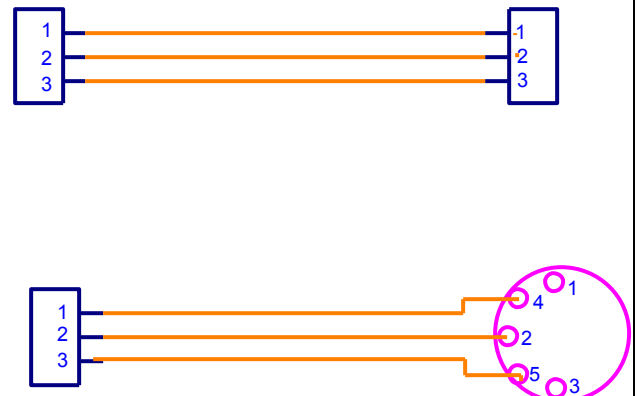

FIG. 4
**MIDI IN, MIDI OUT Jacks.** There are two type on MIDI jack provided, the standard DIN 5 terminal midi jacks. For installations with limited space, Molex three terminal Jacks. Refer to Figure 4 for information on assembling Molex midi plugs.